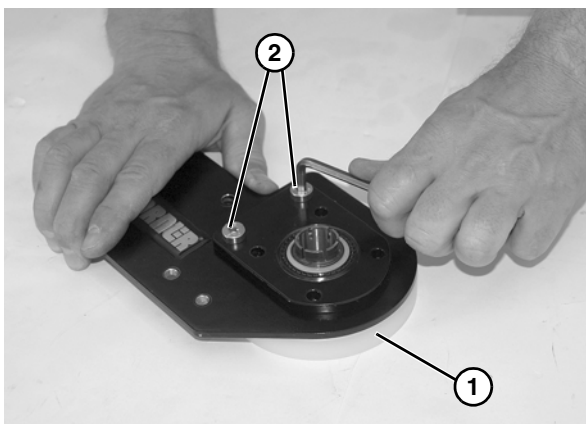

Figure 45
- Check drive terminal assembly (**Figure 45, item 1**) for wear. If worn, remove two low head cap screws (**Figure 45, item 2**) and replace.